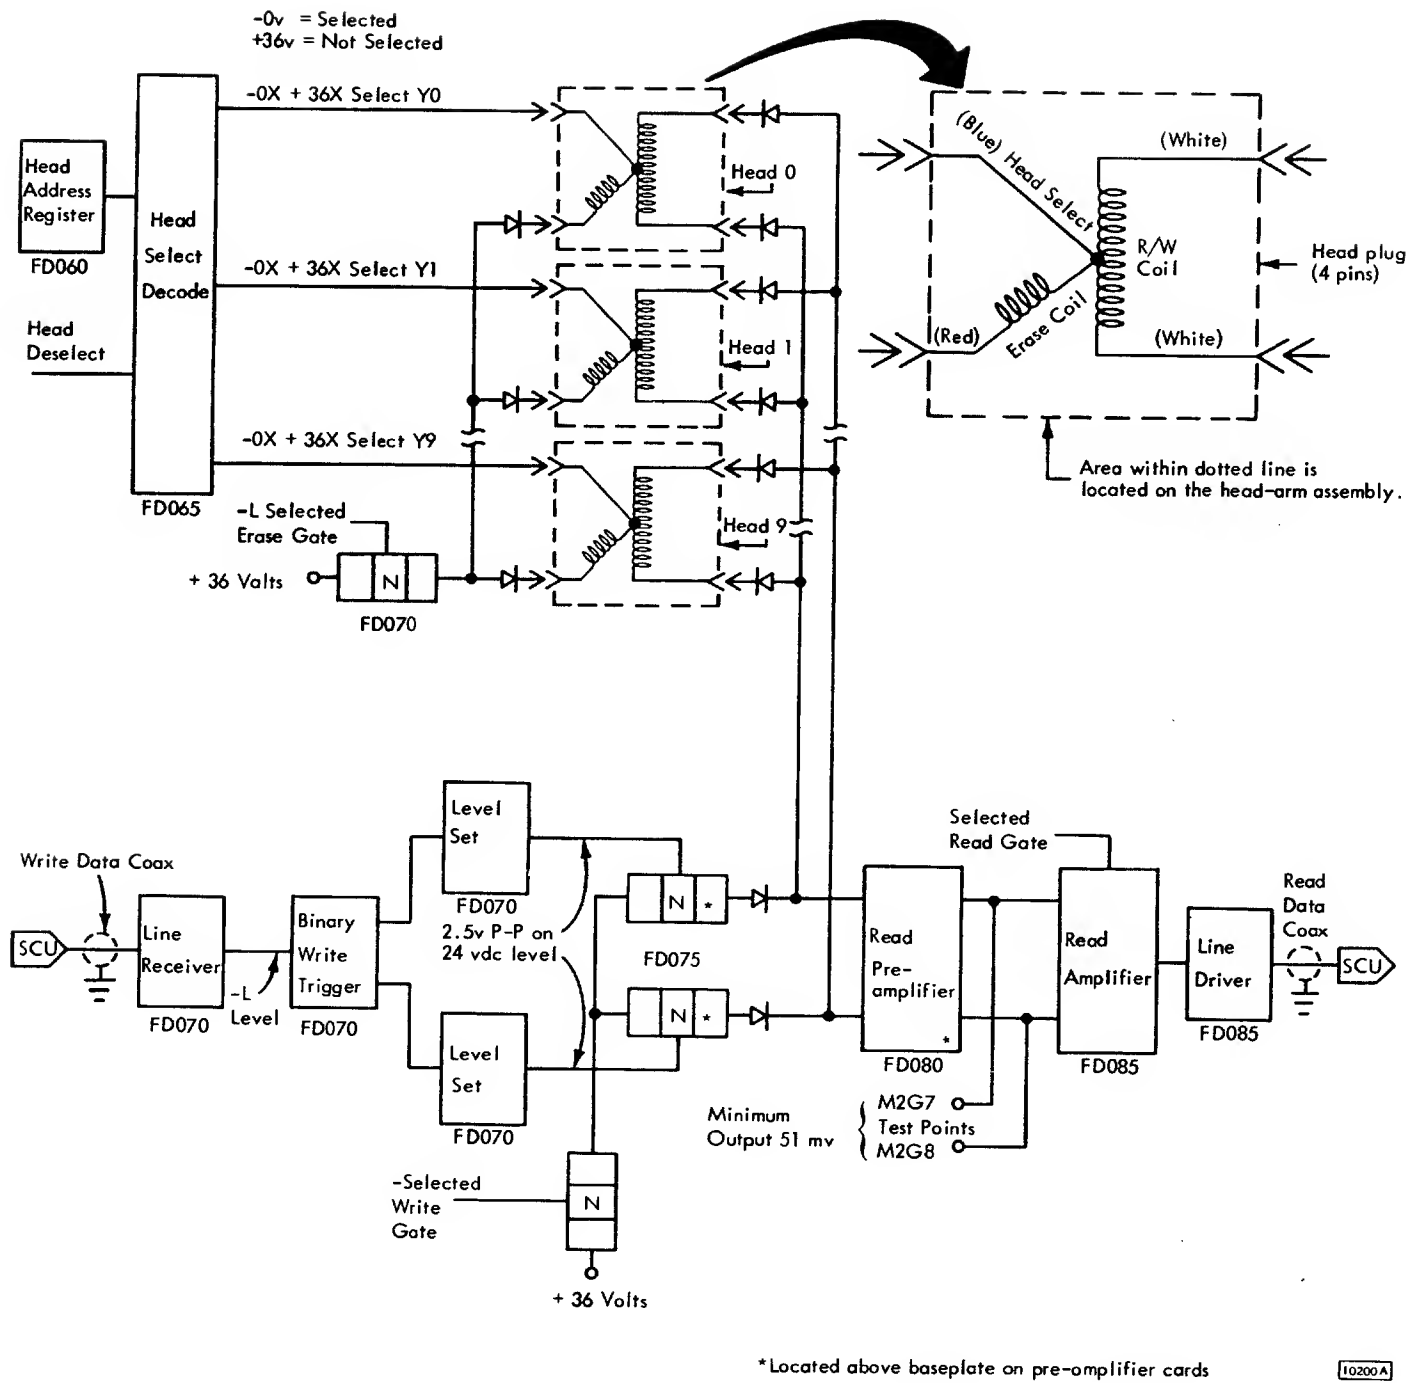

Figure 3-15. Write Circuits
- Write data from the SCU is converted to a -L level by the line receiver circuit (Figure 3-15).
Write data pulses are supplied from the SCU to the selected module write trigger. The write trigger "flips" with each pulse. The on and off outputs of the write trigger are fed to alternate level setting circuits. The 2.5V peak-to-peak outputs of one of the level-setting circuits allow the write current to flow through one half of the read/write coil to the head select circuit. When the write trigger "flips", the write driver provides a circuit to allow conduction through the other half of the read/write coil to the head select circuit (Figure 3-15).